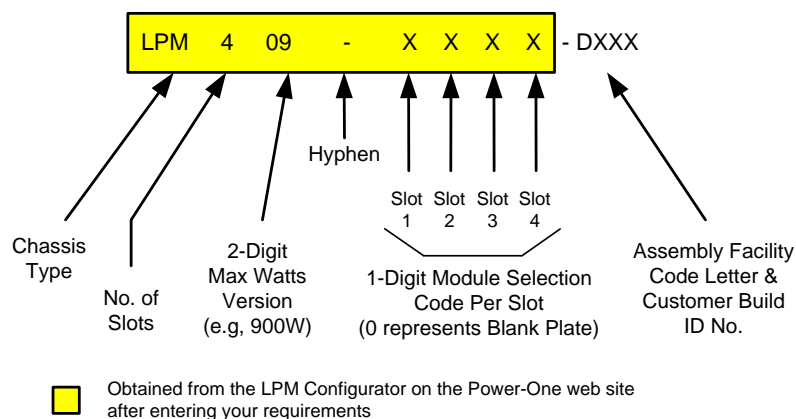

Figure 2. LPM 4-Slot Part Number Structure
NOTE 1: To determine your desired power supply's part number, please refer to *Figure 2* for a detailed part number description. Use the **LPM615 Product Configurator** located in the Modular Section on our website, or use our contacts page to locate a contact or distributor for further assistance.
- LPM409 Low Profile Modular 4-slot, 900W, with single-phase AC input. (see Figure 2)